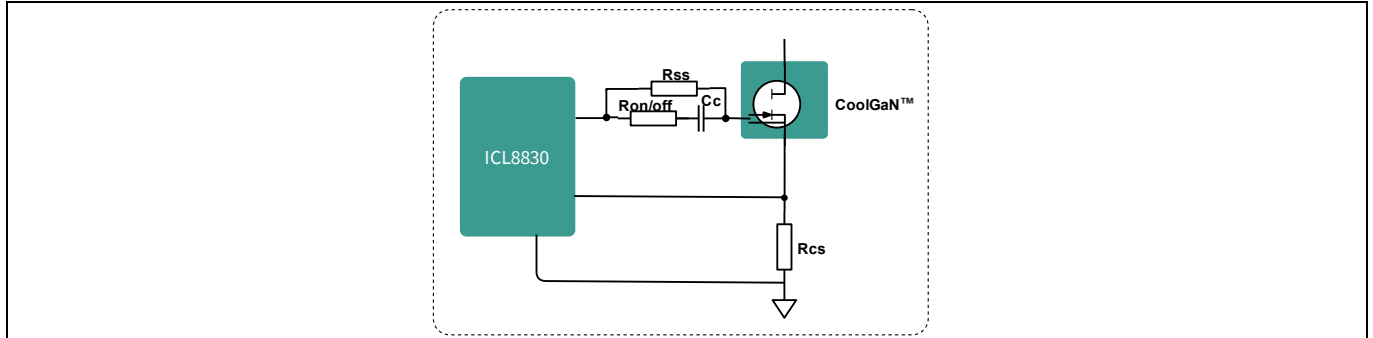

Figure 10 ICL8830 gate drive connection to GIT GaN
- GIT GaN devices can be connected directly driven by ICL8830, as shown in Figure 10. The gate driving component calculation is described in this whitepaper [5].